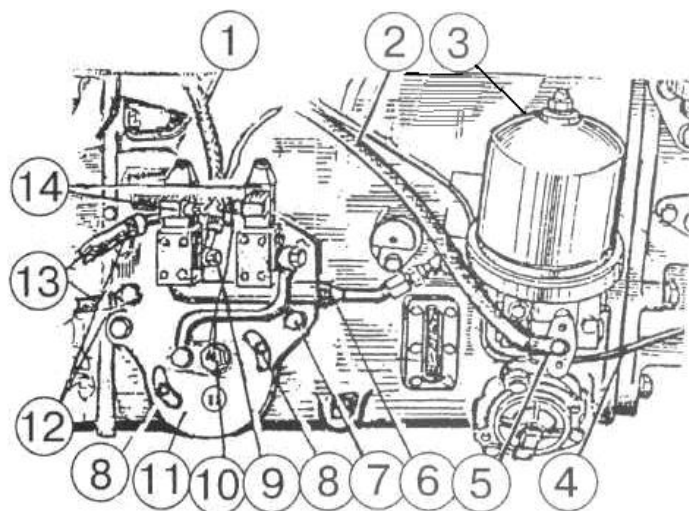

Figure 4.53
b) remove small collars 12 (Figure 4.53) and disconnect hoses 13 of rear PTO drive;